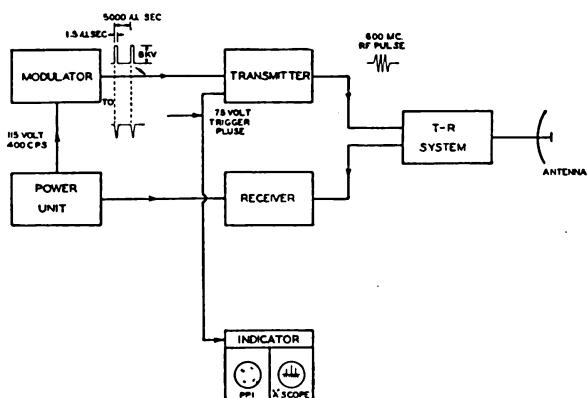

Figure 4. Simplified block diagram of radio set.
*a. Introduction.* A simplified block diagram is shown in figure 4. Radio Set AN/TPS-3 operates on a nominal frequency of 600 megacycles and is tuned to operate on this frequency when shipped. All circuits have a sufficiently wide band-pass to permit efficient operation over the range of frequencies from 590 to 610 megacycles. The frequency of the system should not be changed unless there is interference from nearby radar stations operating on the same frequency, or if other interference is experienced.